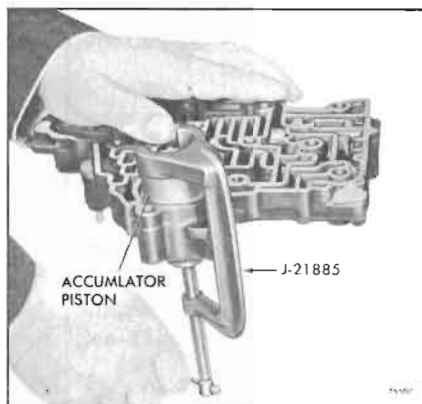

Figure 74-607
3. Install special Tool J-21885, on accumulator piston valve and remove retaining "E" ring. See Figure 74-607.